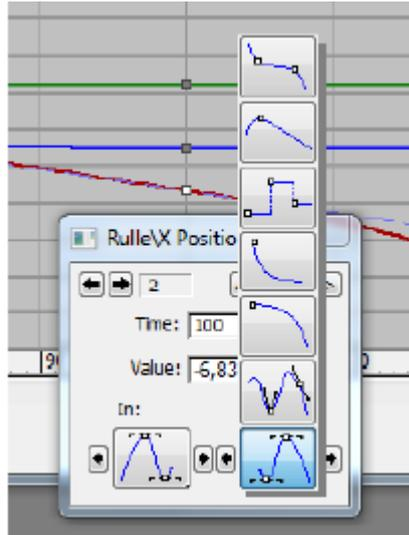

Figure 3: Settings for *Key Frames*
7. The small grey squares on the curves represent our key frames, or *keys* for short. Between them, the motion will be interpolated automatically. We will now change the interpolation method to make the cylinder move in a straight line between the endpoints, by editing the keys. You set these details for keys by right clicking on them in the time slider. We are going to set all motion to use *linear interpolation*, straight lines instead of curves. This is represented by the second icon from the top in Figure 3.
8. For the first key frame, you only need to edit the *Out* curve, and for frame 3 just the *In* curve, because they are at the start and at the end of the sequence. For key number 2, you need to edit both *In* and *Out*. You can step between key frames by clicking the arrows at the top left in the dialog *Key info* (Figure 3), or you can right click the keys you want to edit in the time slider and select which value you want to change. Once you changed all three keys to linear interpolation, you should have a linear motion with constant speed between each pair of key frames in your animation. Play it and watch what it looks like.